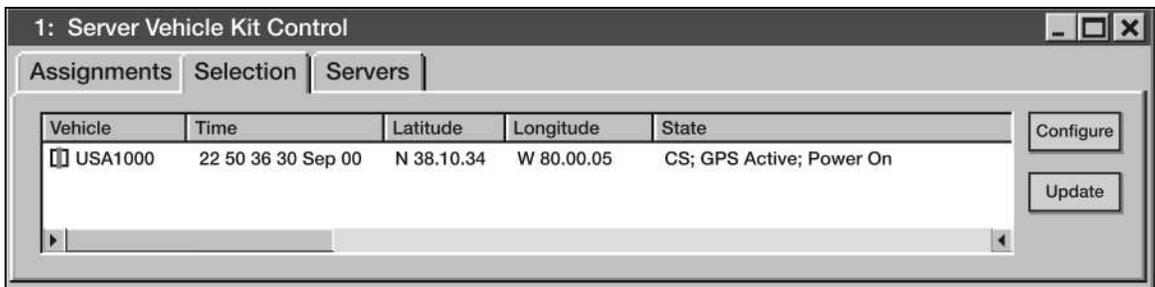

Figure 3-114. The Selection Tab
- (b) The Selection Tab. Click on the Selection Tab (see Figure 3-114) to display vehicle information listed by vehicle.